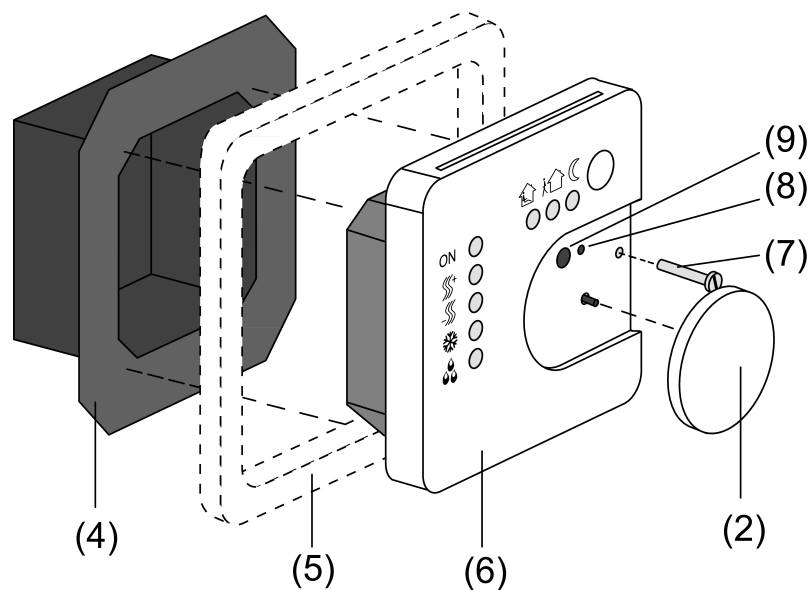
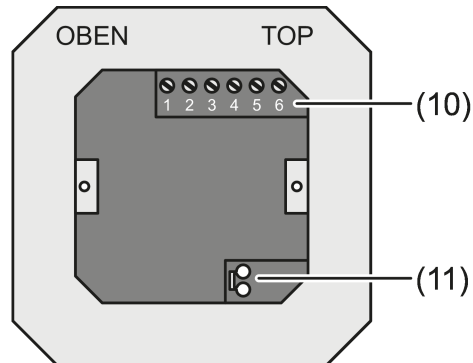
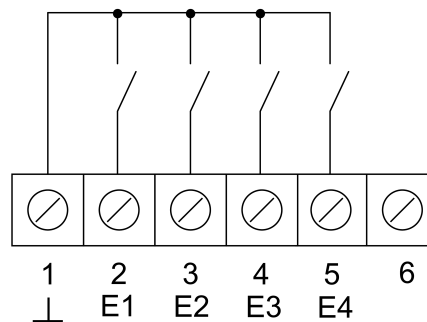
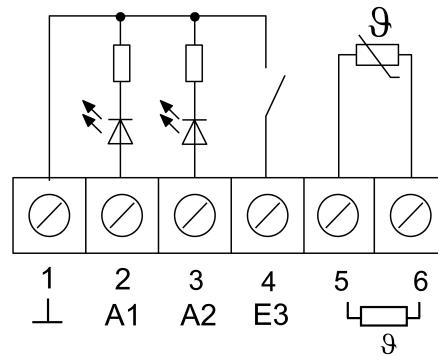

Figure 2: Device components
Figure 3: Connection terminal insert
Figure 4: Connection of binary inputs
Figure 5: Connection of binary outputs
- (4) Connection terminal insert
- (5) Cover frame
- (6) Electronics cover
- (7) Retaining screw
- (8) Programming LED
- (9) Programming button
- Separate the connection terminal insert (4) and the electronics cover (6) (see figure 2).
- Connect the bus line to the device connection terminal (11) in the connection terminal insert (see figure 3).
- Binary inputs **E1...E4**: Connect the NO or NC window contacts as switches or push-buttons to the connection terminals 1 and 2...5 (see figure 4) of the terminal strip (10) (see figure 3).
- Binary outputs **A1...A2**: Connect the LED or electronic relay to the connection terminals 1 and 2, 3 (see figure 5) of the terminal strip (10) (see figure 3).
- Connect the external temperature sensor to the connection terminals **5** and **6** (see figure 5) of the terminal strip (10) (see figure 3).
- Insert the connection terminal insert (4) (see figure 2) in the flush-mounted appliance box. Observe the labelling **OBEN / TOP**. The bus connection (11) must be at the bottom, right (see figure 3).
- Fit the cover frame (5) on the connection terminal insert (4).
- Insert the electronics cover (6) in the correct position into the connection terminal insert (4).
- Remove the adjustment dial (2).
- Fasten the electronics cover with the retaining screw (7).
- Reattach the adjustment dial (2).
- Pull off the adjustment dial (2) (see figure 2).
- Press the programming button (9).